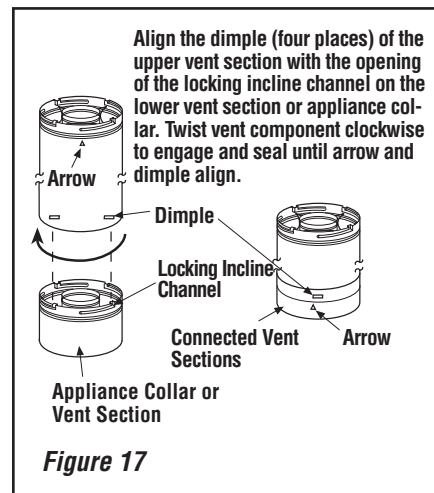

Figure 17
B. Attach vent components to appliance—Secure Vent® SV8 direct-vent system components are unitized concentric pipe components featuring positive twist lock connections (see **Figure 17**).
To attach a vent component to the appliance collar, align the dimpled end over the collar, adjusting the radial alignment until the four locking dimples are aligned with the inlet of the four inclined channels on the collar (refer to **Figure 17**). Push the vent component against the collar until it fully engages, then twist the component clockwise, running the dimples down and along the incline channels until they seat at the end of the channels. The unitized design of the **Secure Vent** components will engage and seal both the inner and outer pipe without the need for sealant or screws. If desired a #6 x 1/2" screw may be used at the joint, but it is not required as the pipe will securely lock when twisted.
Push the vent component against the previous section until it fully engages, then twist the component clockwise running the dimples down and along the incline channels until they seat at the end of the channels. **This seating position is indicated by the alignment of the arrow and dimple as shown in Figure 17.**
F. Change vent direction to horizontal/inclined run—At transition from or to a horizontal/inclined run, install the SV8 E45 and SV8 E90 elbows in the same manner as the straight vent sections. The elbows feature a twist section to allow them to be routed about the center axis of their initial collar section to align with the required direction of the next vent run element. **Twist elbow sections in a clockwise direction only so as to avoid the possibility of unlocking any of the previously connected vent sections.** See **Figure 17 on Page 14** and **Figure 19**.
Secure Vent SV8 direct-vent system components are unitized concentric pipe components featuring positive twist lock connection, (refer to **Figure 17 on Page 14**). All of the appliances covered in this document are fitted with collars having locking inclined channels. The dimpled end of the vent components fit over the appliance collar to create the positive twist lock connection.
C. Frame ceiling opening—If the vertical route is to penetrate a ceiling, use plumb line to locate the center above the appliance. Cut and/or frame an opening, 13" x 13" (330 mm x 330 mm) inside dimensions, about this center (refer to **Figure 17 on Page 14**).
Other vent sections may be added to the previously installed section in accordance with the requirements of the vent tables. To add another vent component to a length of vent run, align the dimpled end of the component over the inclined channel end of the previously installed section, adjusting the radial alignment until the four locking dimples are aligned with the inlets of the four incline channels of the previous section. Push the vent component against the previous section until it fully engages, then twist the component clockwise running the dimples down and along the incline channels until they seat at the end of the channels. **This seating position is indicated by the alignment of the arrow and dimple as shown in Figure 17 on Page 14.**
H. Change vent direction—At transition from or to a horizontal/inclined run, install the SV8E45 and SV8E90 elbows in the same manner as the straight vent sections. The elbows feature a twist section to allow them to be routed about the center axis of their initial collar section to align with the required direction of the next vent run element. **Twist elbow sections in a clockwise direction only so as to avoid the possibility of unlocking any of the previously connected vent sections (see Figure 17 on Page 14).**